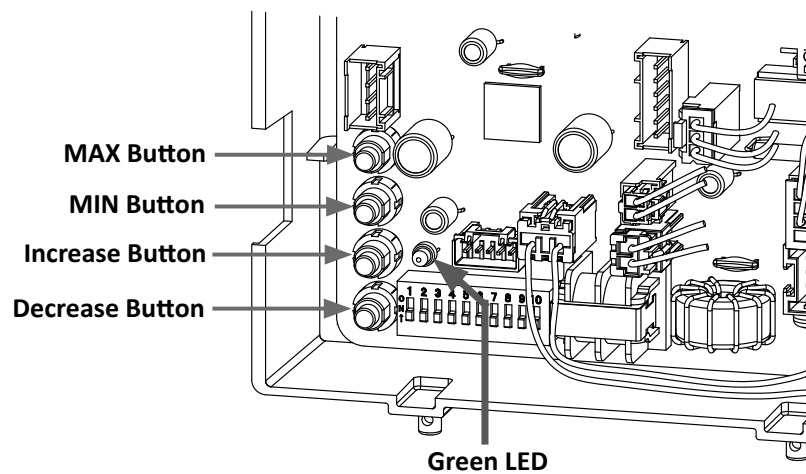

Figure 8.
- 7.3 On the computer board, simultaneously press and hold the INCREASE and DECREASE buttons for five seconds. They are the two lower buttons (Figure 8, page 18).
- 7.4 Release the buttons when the green LED on the control board turns off (Figure 8, page 18). It will turn back on.
- 9.3 Simultaneously press and hold the INCREASE and DECREASE buttons on the computer board. They are the two lower buttons. See Figure 8.
- 9.4 Release the buttons when the green LED turns off (Figure 8). It will turn back on.